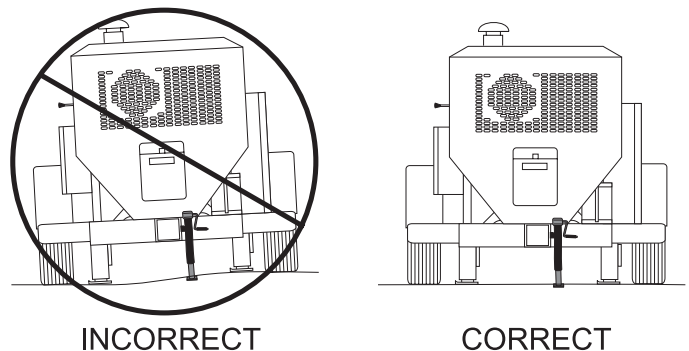

Figure 18. Rear Stabilizer Stand Deployment
17. Position both rear stabilizer stands on firm (not loose) **level** ground (Figure 18).